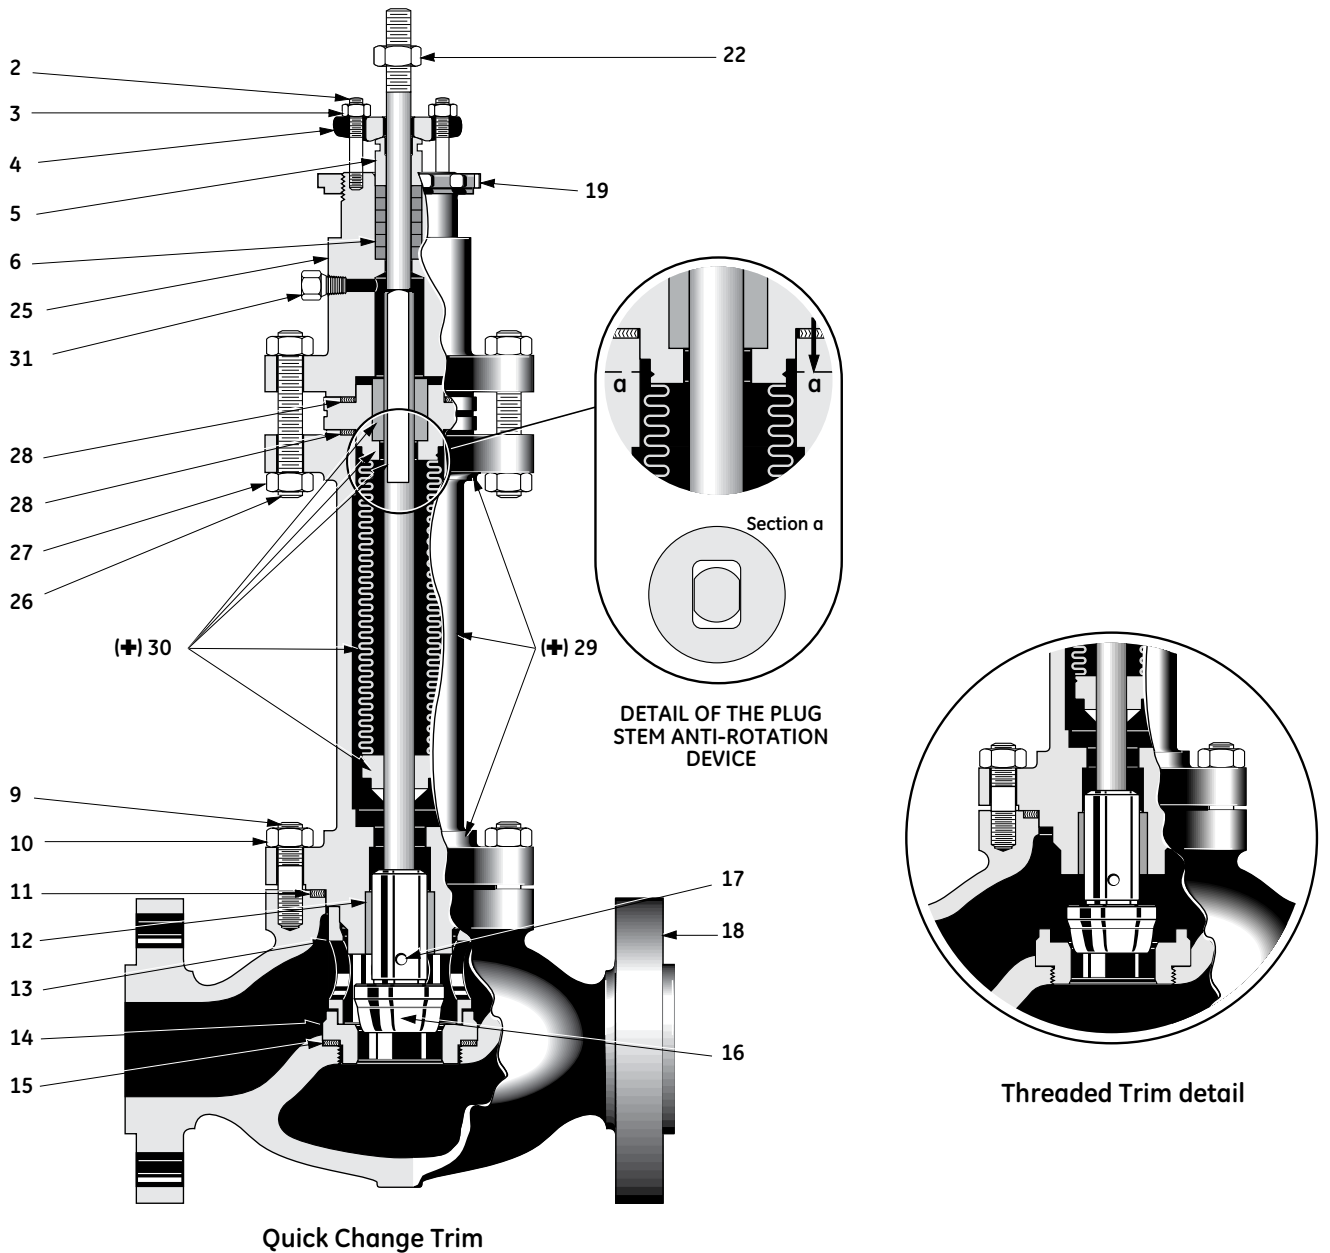

Figure 19 – 21000 BS Valve
10.1 Bellows Valve Disassembly (Figure 19)